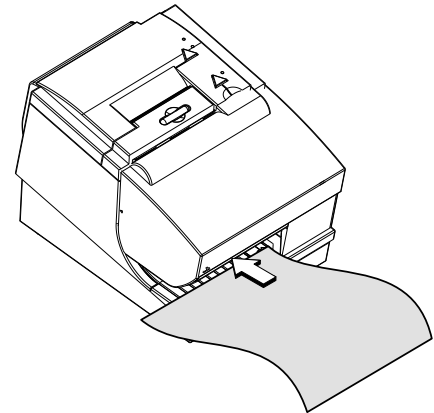

Figure 19. Inserting documents from the side
1. Press the **A** and **B** buttons at the same time (see Figure 19). When you press both buttons at the same time and then release, the document insert throat opens.